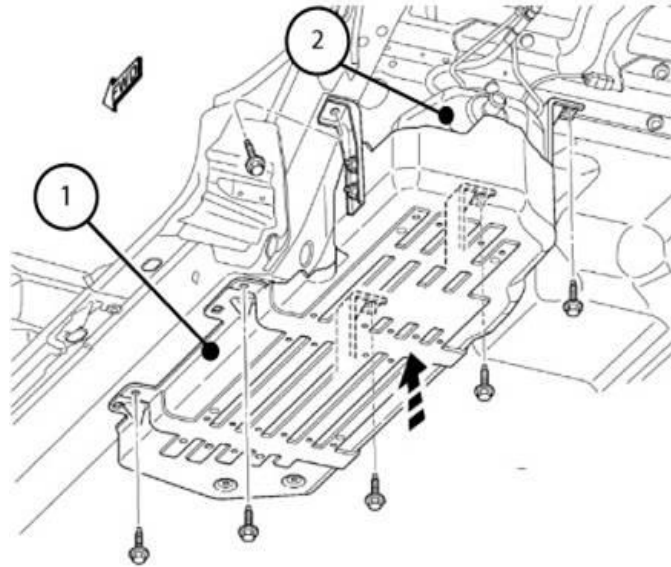

Fig. 9 Fuel Tank Skid Plate
3. Seat the fuel tank into the skid plate (Fig. 9).
4. Raise and position fuel tank to vehicle body using a hydraulic jack (Fig. 9).
5. Install and torque bolts to 80ft.-lbs.(108NM) (Fig. 9).